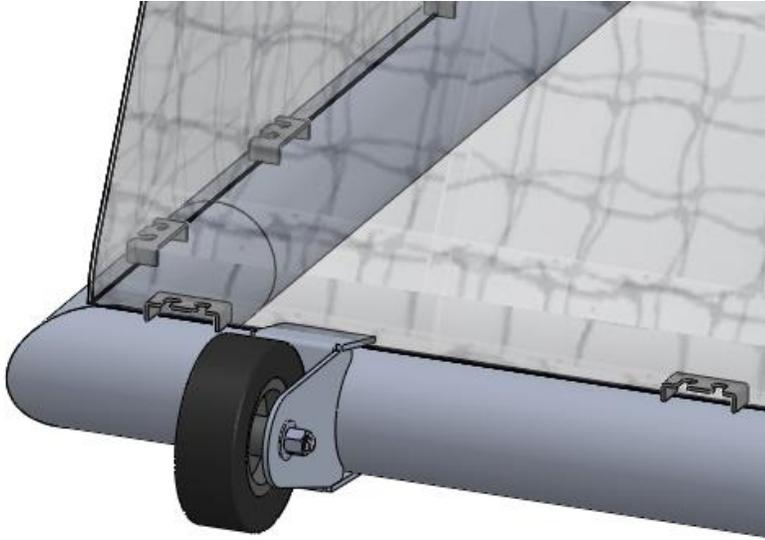

Figure 7
6. With the goal now fully assembled, and the net fastened, the wheels can now be put on. Each wheel is held on using the supplied 1/2-13 x 4" long bolt, with a washer on each side and nylock nut, as shown in figure 7 below.